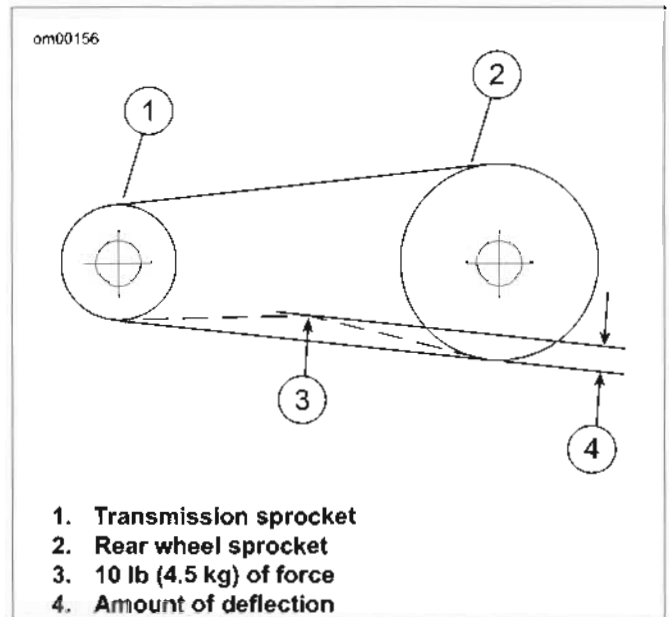

Figure 1-23. Checking Belt Deflection
- b. **All other models:** See Figure 1-23. Measure belt deflection (4) while holding gauge steady.